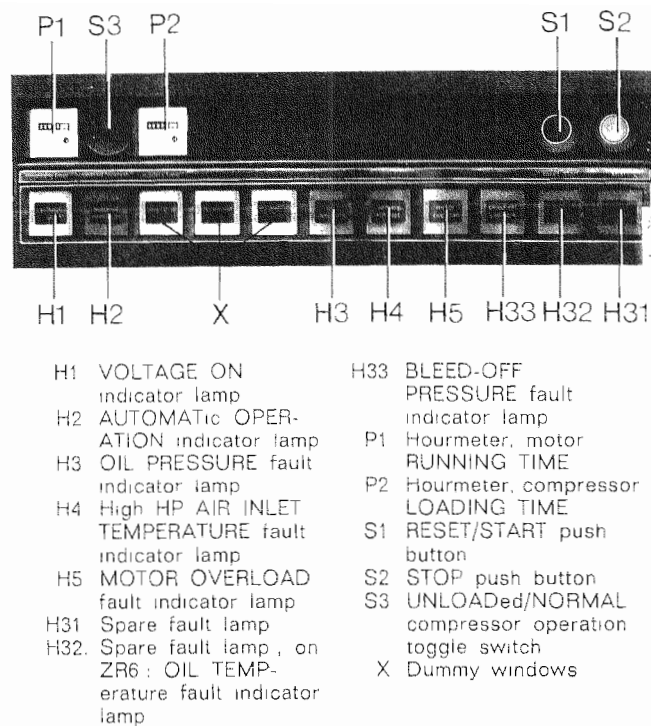

Fig. 11 Control and indicator panel
No lamps are installed behind the three windows (X - Fig. 11), they are available for eventual extra controls, provided that adaptation is made.
- 4 Check that toggle switch (S3 - Fig. 11) is placed in the UNLOADED position.
2.4 Starting (Fig. 11)